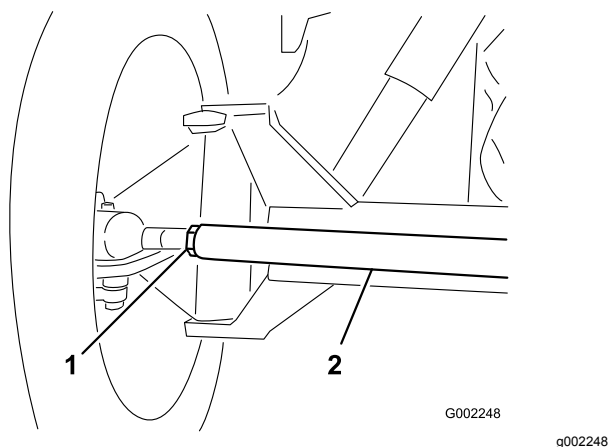

Figure 85
3. If the measurement does not fall within the specified range, loosen the jam nuts at both ends of the tie rod (Figure 85).